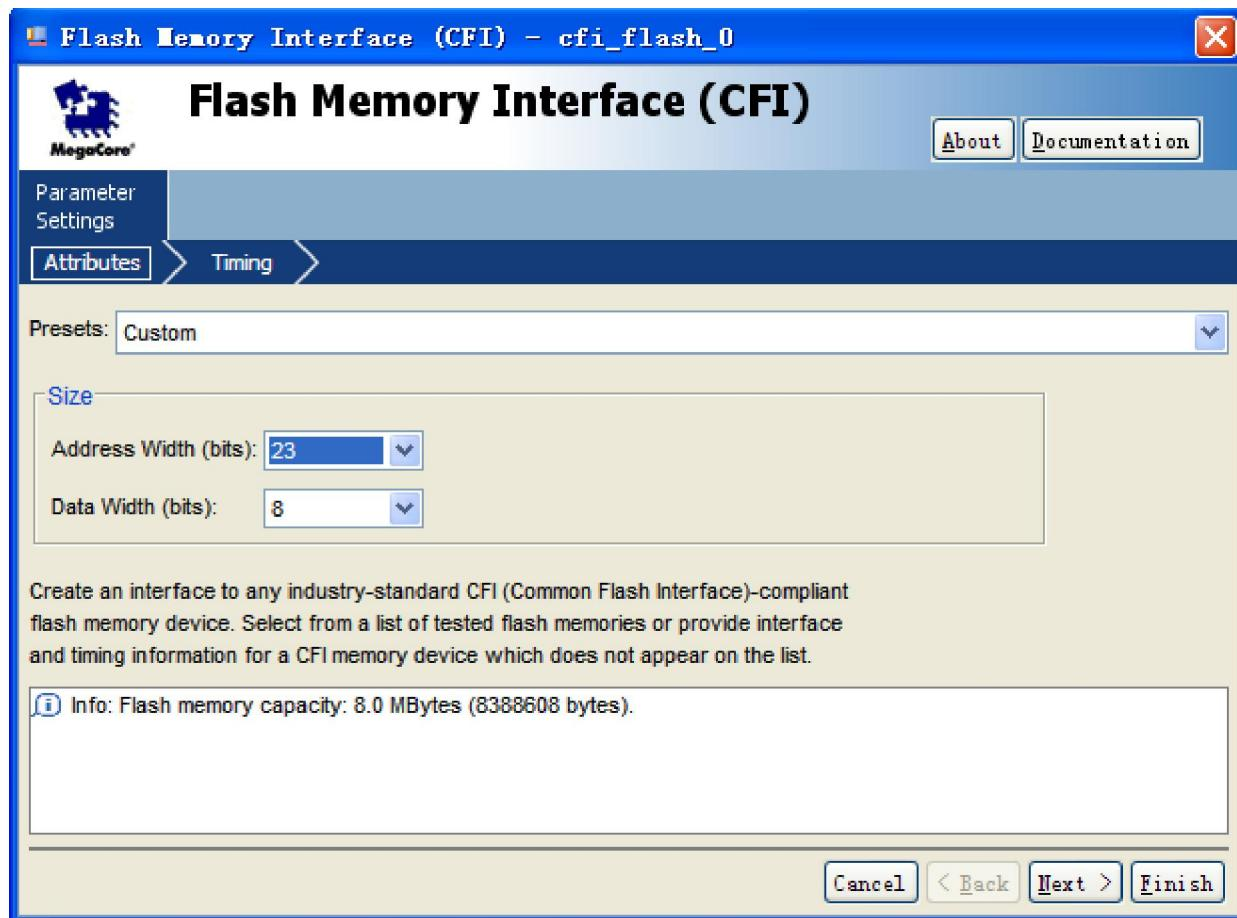

Figure 3-7 Modify Address Width in Flash Memory Interface (CFI)
5. Modify Address Width as shown in **Figure 3-7**.